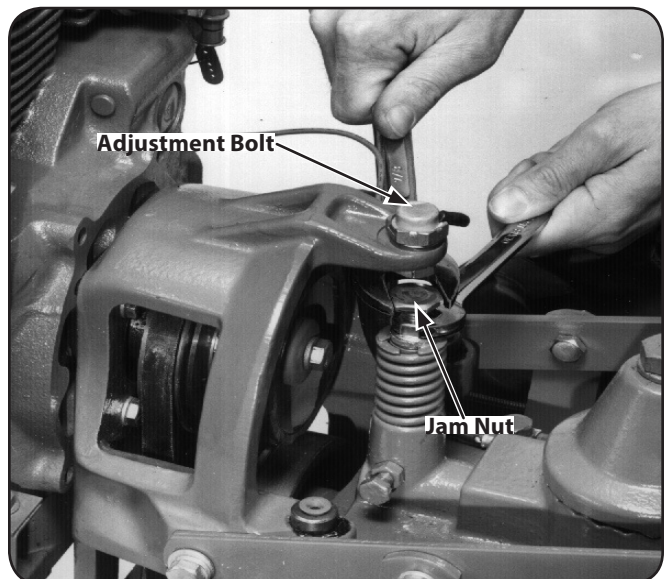

Figure 6-23
5. Place a $\frac{7}{8}$ " wrench on the head of the reverse adjustment bolt and a $\frac{5}{16}$ " wrench on the jam nut below it. See Figure 6-23. Hold the bolt steady while loosening the jam nut three or four turns.
7. Check that the reverse disc is at least $\frac{3}{16}$ " away from the transmission drive pulley. Then hold the reverse adjustment bolt steady with one wrench while tightening the jam nut with a second wrench. See Figure 6-23.